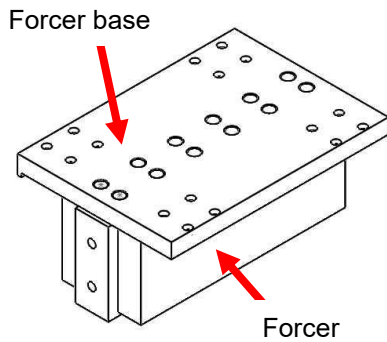

Figure5.1-18 Forcer installation
- ▶ Install the forcer onto the forcer base first. (refer to Figure5.1-18)